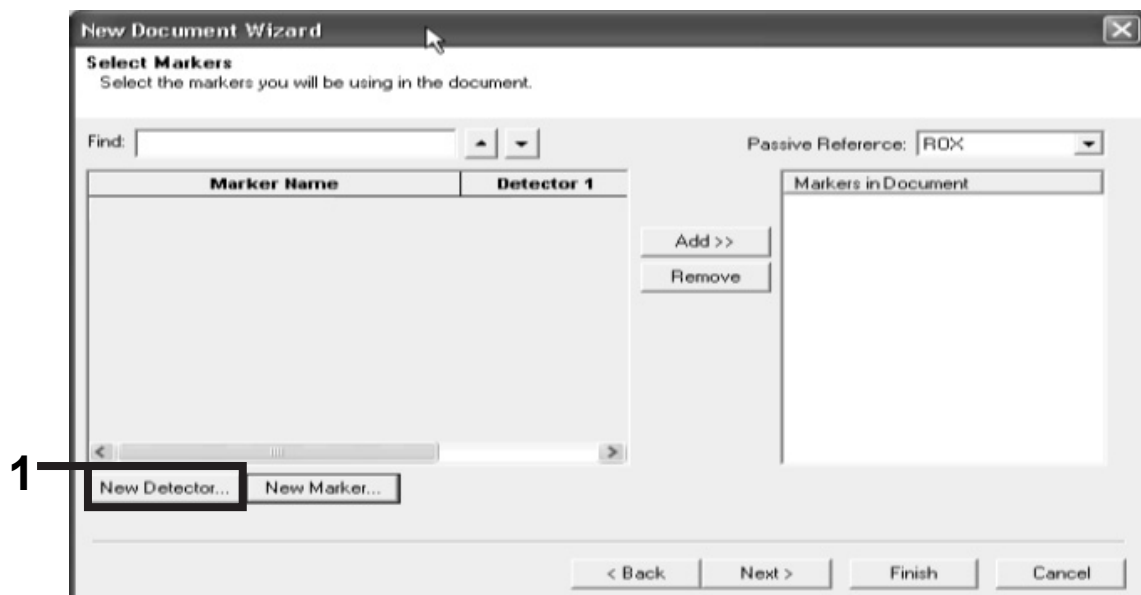

Figure 14. The "Markers in Document" panel does not contain a suitable marker for your application.
15. Create detectors and markers as follows. Click "New Detector" (Figure 14).
18. Click “New Marker” in the “Select Markers” dialog box (see Figure 14).